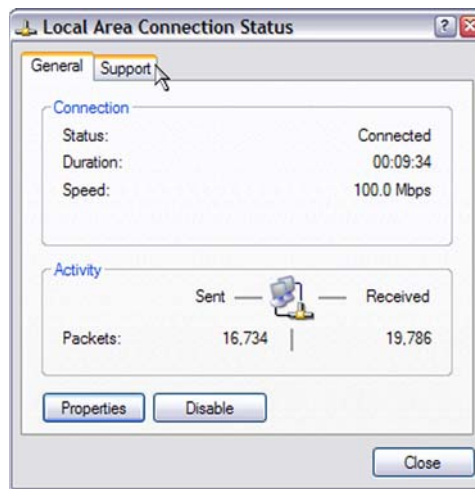

Figure 65: Local Area Connection Status window
4. Double-click **Local Area Connection**. The Local Area Connection Status window appears (Figure 65).